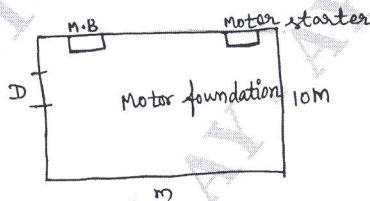

Fig. Q6 (c)
c. A 10 HP, 415 V, 3  $\phi$ , 50 Hz induction motor is to be installed in a workshop the plan of which is shown in Fig. Q6 (c). Show the single line diagram and estimate the quantity of material required. (10 Marks)